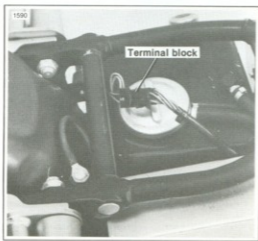

Figure 2-126. Tail/Signal Light Terminal FL Models
5. See Figure 2-126. Unplug the signal/taillight wiring harness. Use a PIN TERMINAL TOOL, Part No. HD-97362-71 to remove the pins from the terminal housing.